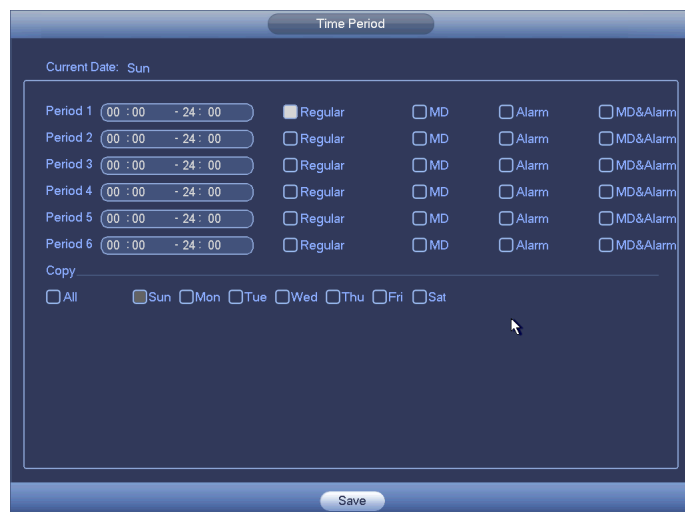

Figure 4-173
- Period setup: Click button  after one date or a holiday, you can see an interface shown as in Figure 4-173. There are four record types: regular, motion detection (MD), Alarm, MD & alarm.